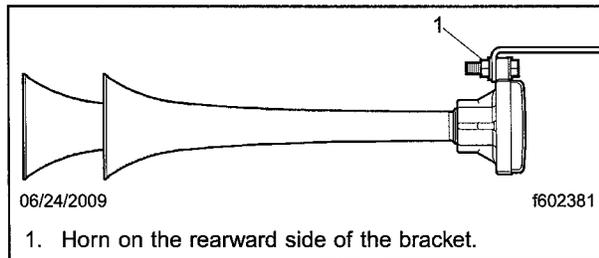

Fig. 3, Air Horn Mounting
10. Ensure the air horn is mounted to the rearward side of the mounting bracket. See **Fig. 3**.